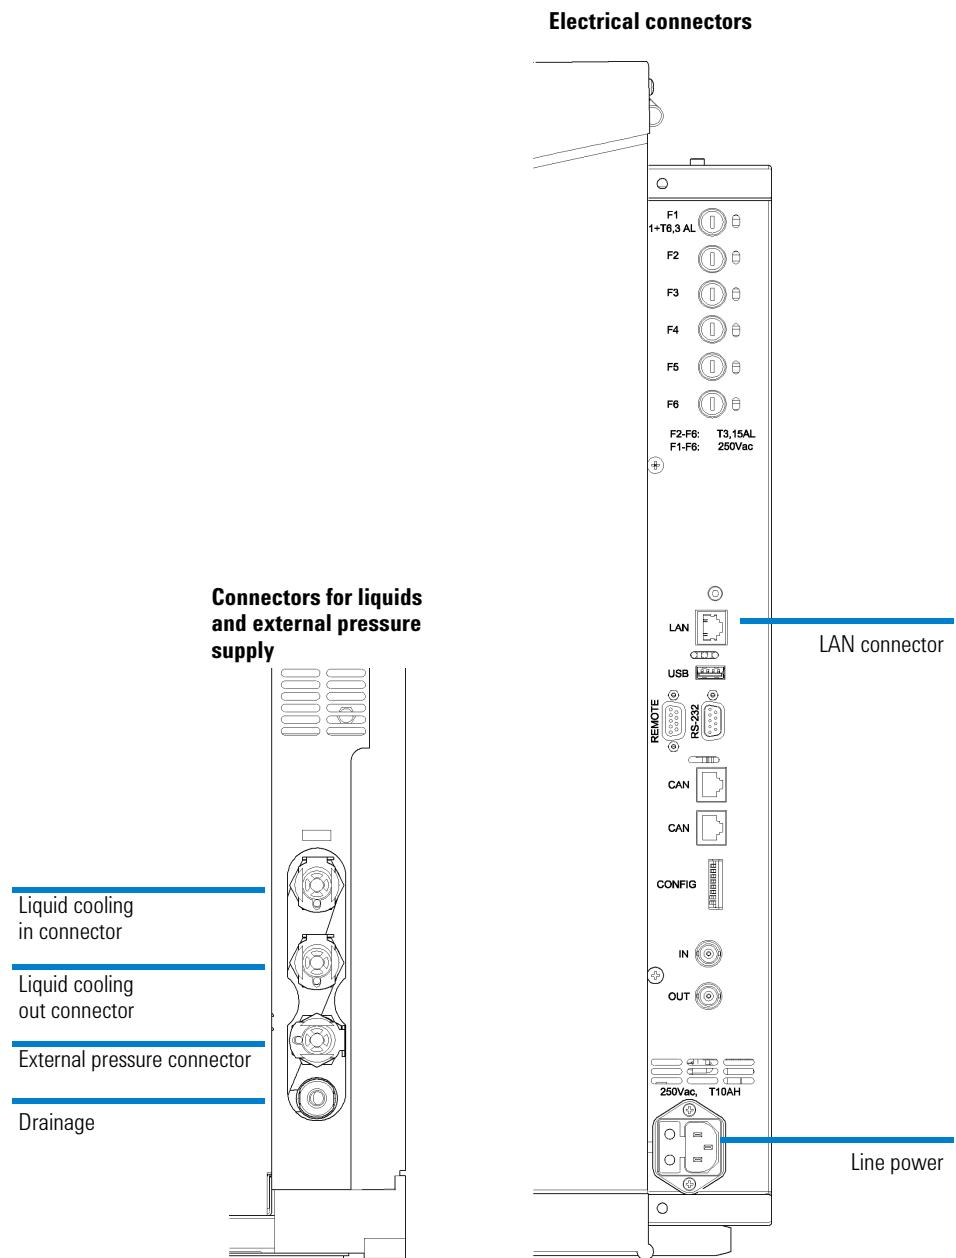

Figure 2 Connections on the rear of the instrument
- 2 Connect the following cables as shown in Table 2 and in Figure 2.